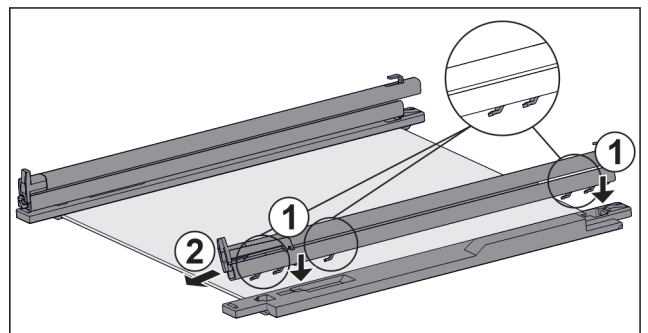

Fig. 128 Glass shelf with rails and retaining parts
- ▶ Place rail hooks onto the openings of the **left** retaining part. Fig. 128 (1)
- ▶ Push rail forwards. Fig. 128 (2)
- ▶ Place rail hooks onto the openings of the **right** retaining part. Fig. 128 (1)